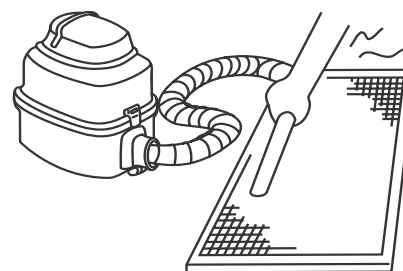

Fig.4-8
- ⑥ The air-in side should face up when using vacuum cleaner. (See Fig.4-8)